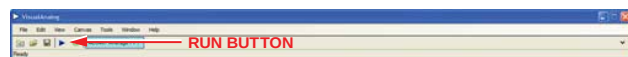

Figure 10. VisualAnalog Window Toolbar, Run Button
- Click the **Run** button in the VisualAnalog toolbar (see Figure 10).